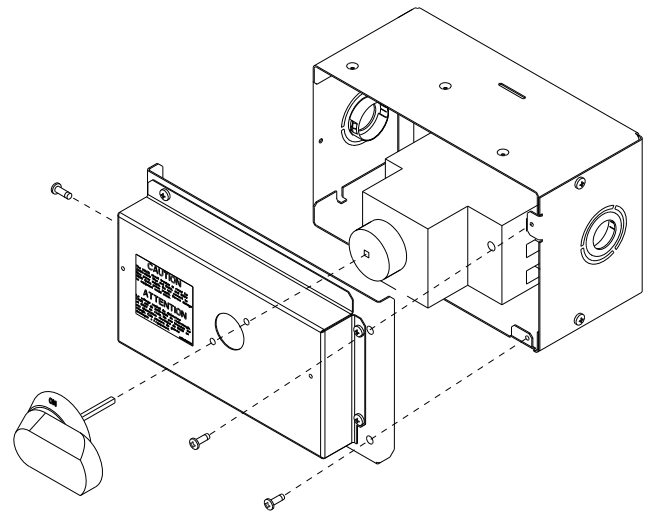

Fig. 22 — HACR Handle and Shaft Assembly
2. Remove (3) cap head screws that secure the HACR enclosure — (2) on the face of the cover and (1) on the left side cover. See Fig. 22.
5. Insert the shaft all the way with the cross pin on the top of the shaft in the horizontal position. See Fig. 22.
9. Secure the handle to the painted cover with (2) screws and lock washers supplied.
10. Engaging the shaft into the handle socket, re-install (3) cap head screws on the HACR enclosure.